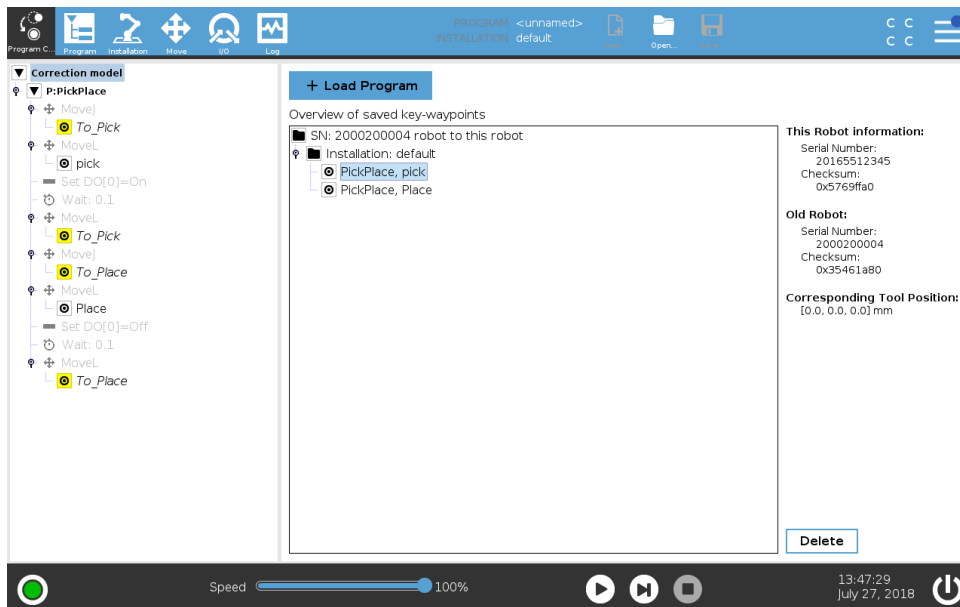

Figure 3.12: Correction Model overview
The key waypoints are grouped by the source robot's relationship to the new robot and its installation. Each key waypoint is named and refers to the source program, (see Figure 3.12 and 3.13).
- You can expand the Correction Model node for an overview of the redefined key waypoints, (see Figure 3.12).